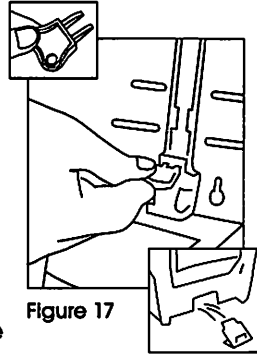

Figure 17
- From the **INSIDE** of the dispenser, insert the key into the back of the dispenser in the key slot and push until the latch piece is ejected from the bottom of the dispenser. (See Figure 17)